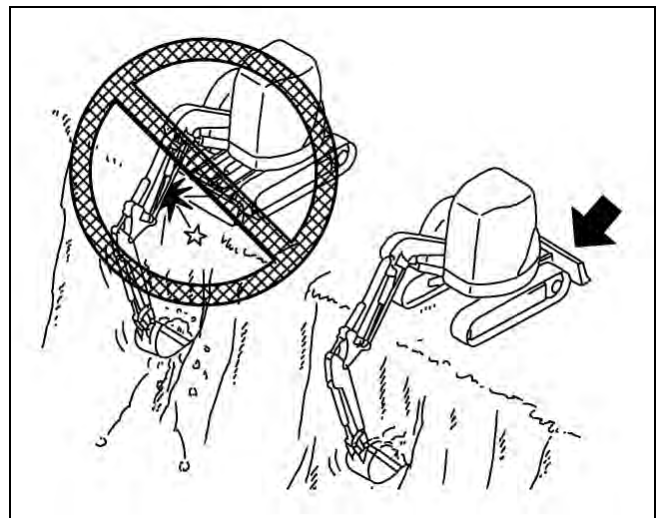

Figure 3-52 Dozer Blade Positioning
- Working alongside trenches and deep excavation are two applications where the dozer blade might restrict bucket movement. When working alongside trenches, lower and place the dozer blade on the ground to avoid damage to the boom cylinder. When deep excavating, position the machine so the lowered dozer blade is on the opposite side of the excavation (Figure 3-52).